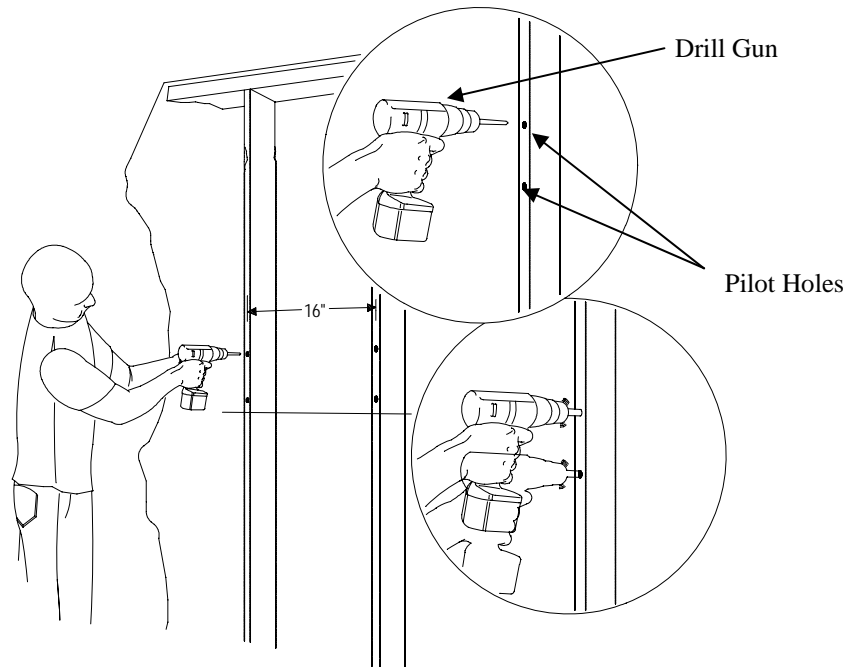

Figure 10. Mounting Surfaces
4. Use the information below when mounting to the following surfaces (Figure 10):